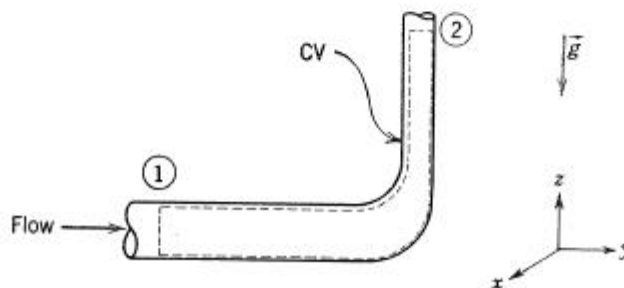

Fig. 8.13 Control volume and coordinates for energy analysis of flow through a 90° reducing elbow.
a reducing elbow, shown in Fig. 8.13. The control volume boundaries are shown as dashed lines. They are normal to the flow at sections ① and ② and coincide with the inside pipe wall elsewhere.